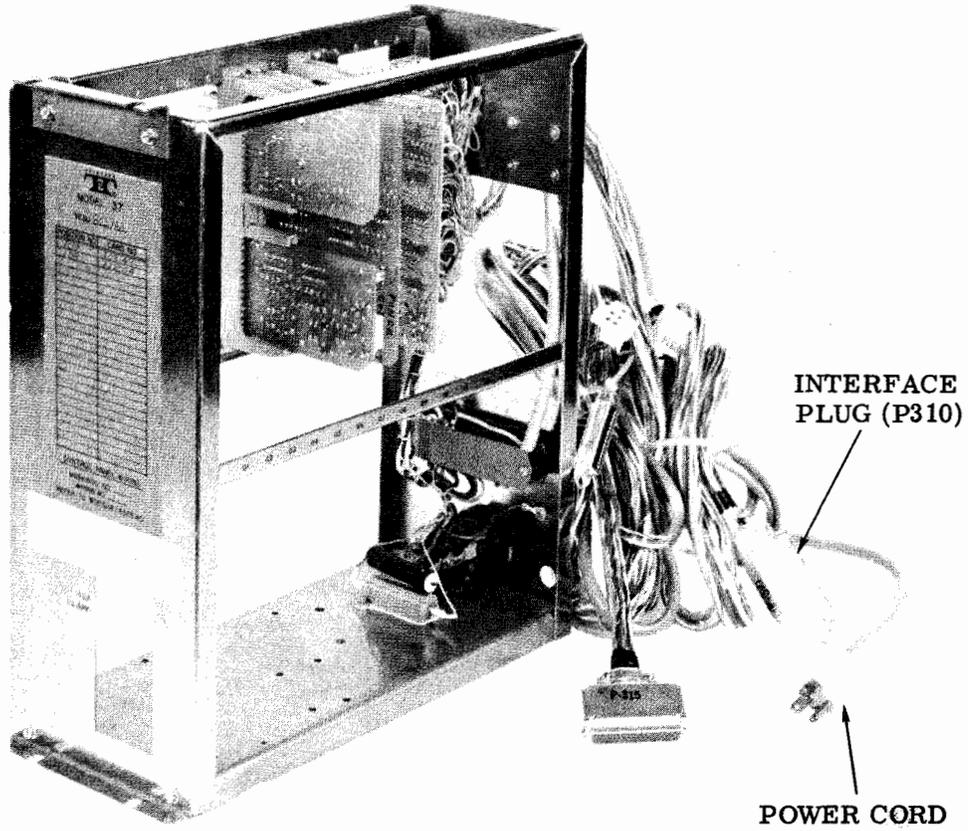

Figure 4 - 37 RT Electrical Service Unit
2.06 Unpack the RT module by removing the cabinet and all packing material from the carton. Place the RT cabinet in the assembly area. Move the RT cabinet to the left side of the table and route the RT interface plug (P310) and the power cord (Figure 4) through the base of the cabinet and into the opening at the base of the table.
4.02 Connect the ac power cord from RT module to an outlet on the utility strip and mate P310 to J310 inside the table (Figures 4 and 7).